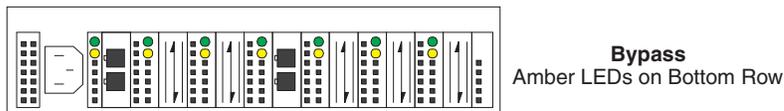

Figure 6. Type 3523 fibre channel hub port bypass LEDs
4. Check the Port Bypass (amber) LEDs. See Figure 6.